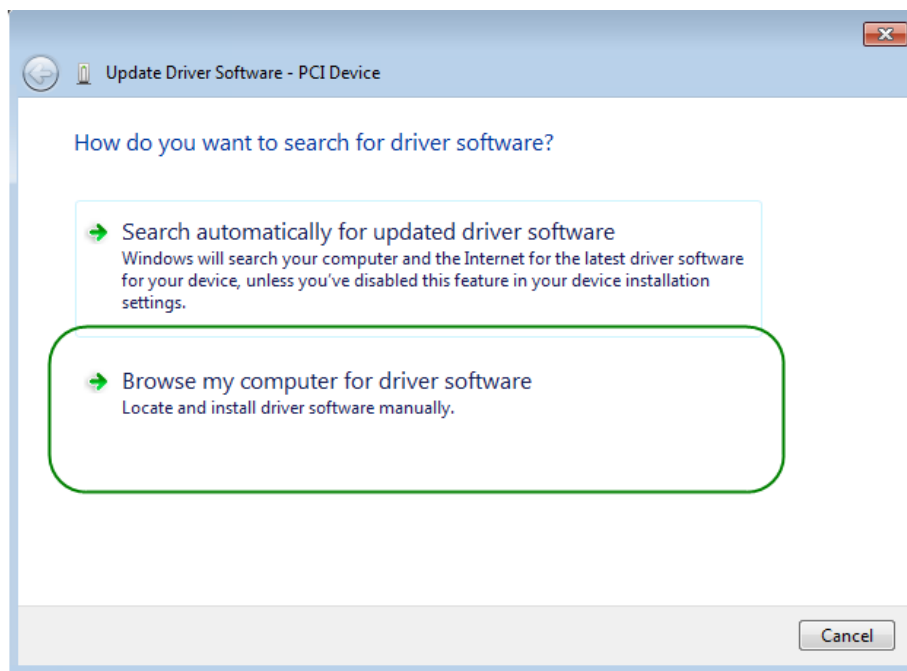

Figure 5-5 Dialog of Browse my computer for driver software
9. In the How do you want to search for driver software dialog, click Browse my computer for driver software item, as shown in **Figure 5-5**.